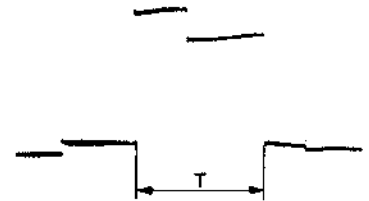

Fig. 5-9 Slow pulse
3. Adjust R32 for  $T = 58$  msec as shown Fig. 5-9.
5. Adjust R35 for  $T = 63$  msec in Fig. 5-9.